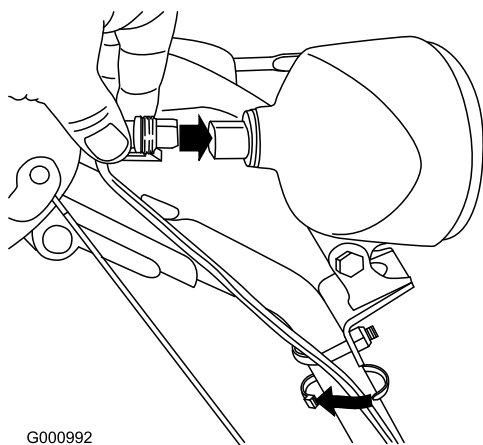

Figure 17
1. Insert the wire connector on the loose end of the wire straight into the back of the headlight until it is securely in place (Figure 17).
**Note:** Ensure that the plastic clip on the wire connector is on the bottom (Figure 17).
2. Secure a cable tie (from the loose parts bag) around the wire and the handle about an inch (2.5 cm) below the U-bolt (Figure 17).